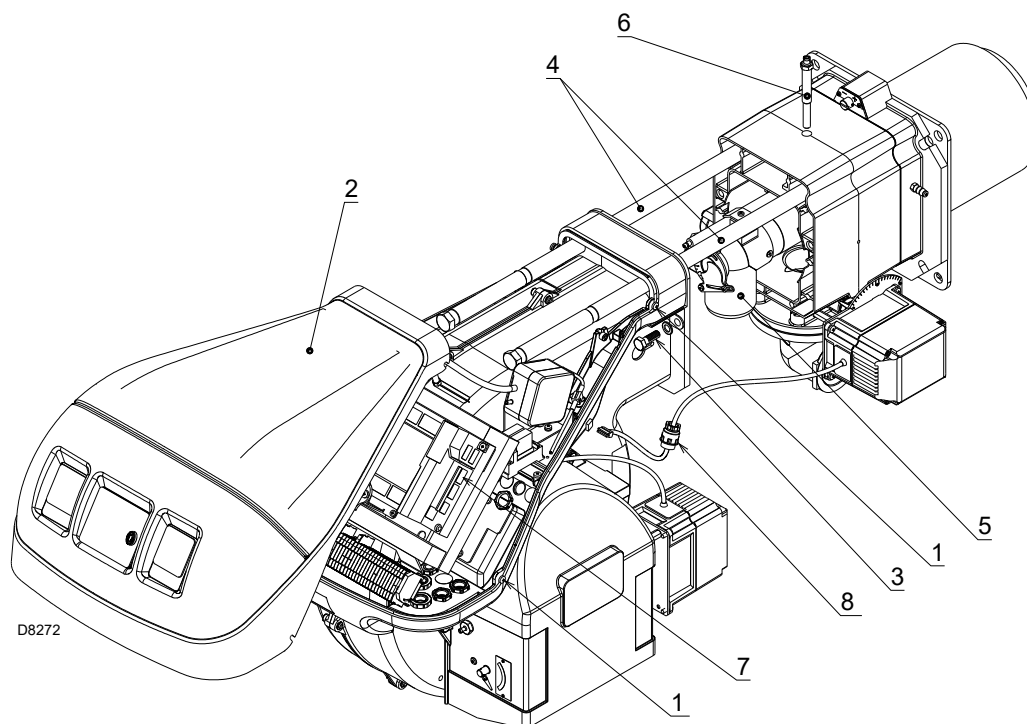

Fig. 40
Make sure that the gas outlet holes for the start-up, on the combustion head distributor, are free of dirt or rust deposits. If in doubt, disassemble the elbow (Fig. 40 at page 52).
- Loosen the 4 screws 1) (Fig. 40) and remove the hood 2).